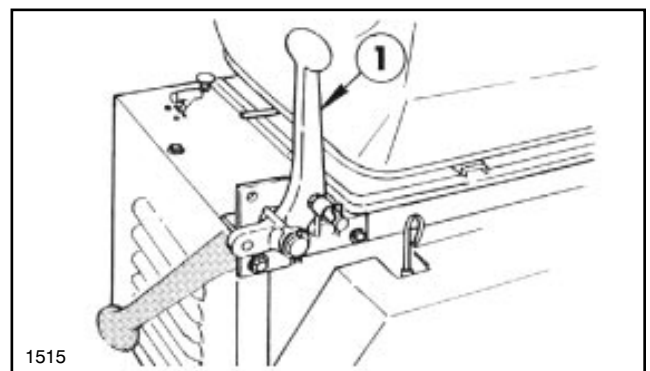

**FIG. 8**
**PARKING BRAKE:** Pull the Lever **up**, toward the operator seat to **engage** the Parking Brake. Push Lever **down**, toward the floor board to **disengage** the Parking Brake. See FIG. 8. **IMPORTANT:** Whenever the engine is shut off, the Parking Brake **must be engaged** to prevent accidental movement of the Vehicle. Make sure Parking Brake is **disengaged** before moving Vehicle.